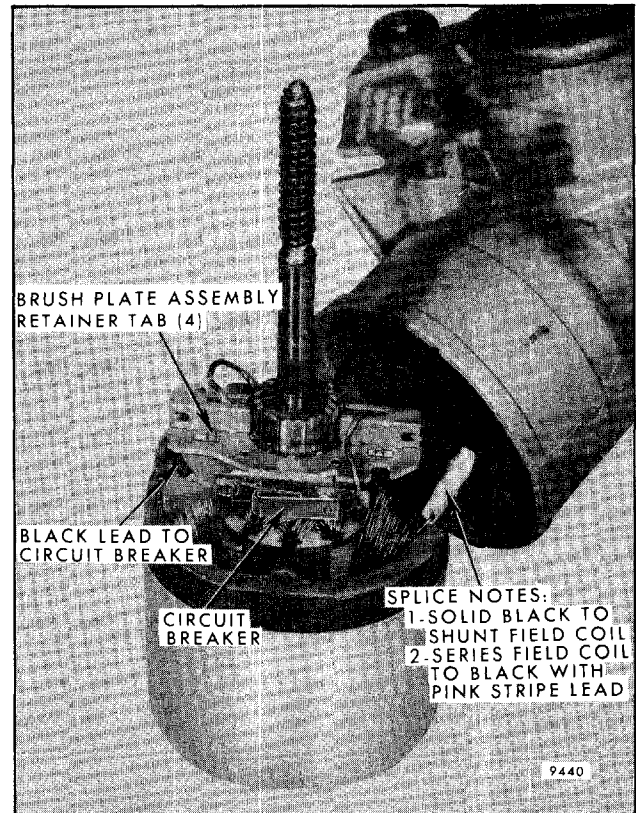

Fig. 2-51-Brush Plate Assembly
- f. Visually inspect the circuit breaker for dirty or burned contacts or solder connections to circuit breaker terminals (Fig. 2-51).